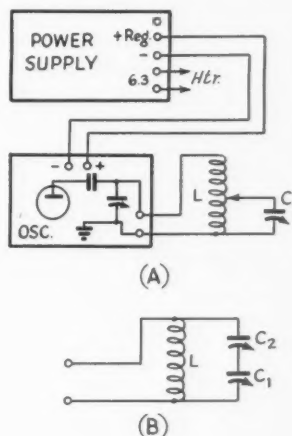
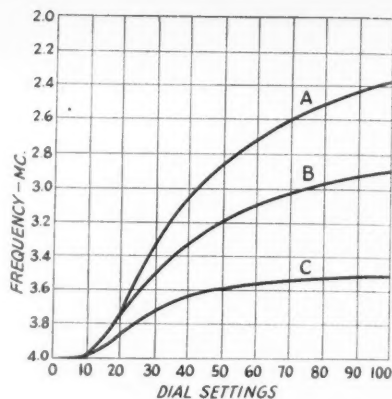

Fig. 5
Fig. 7
**Apparatus:** The equipment required for this experiment includes the plate power supply, oscillator, coils and condensers from the circuit board, and a calibrated receiver. The oscillator is operated self-controlled, using the grid coil instead of the crystal. The regular plate coil is taken out of its socket and one of the tapped coils from the circuit board substituted, as shown at *L* in Fig. 5. The oscillator tank condenser should be connected across 25 turns of the coil.
**Procedure:** Connect one of the variable condensers on the circuit board across the 25 turns in use at  $L$ , as shown in Fig. 5-A, where the condenser is designated as  $C_1$ . Set  $C_1$  to minimum capacity, adjust the receiver to 4 megacycles, and adjust the tank condenser in the oscillator unit until the signal is heard. It will be advisable to keep the receiver gain low because the signal probably will be quite strong. If the receiver is a superhet, care must be used in setting the oscillator frequency actually to 4 megacycles rather than to an image frequency or other spurious response point. The proper frequency will be the strongest signal heard as the oscillator tank condenser is turned. (As another check, the oscillator frequency may be measured with an absorption wave-meter, if one is available.)
For the second part of the experiment, connect the two 250- $\mu\text{fd.}$  condensers on the circuit board in series across the 25-turn coil, as indicated at B in Fig. 5. Set the second condenser,  $C_2$ , at full capacity, adjust the oscillator tank condenser to bring the frequency to 4 megacycles, and take frequency readings for various settings of  $C_1$  in the same way as above. Then set  $C_2$  to half scale, reset the tank condenser to make the oscillator frequency 4 megacycles and repeat. Follow the same procedure for a third time with the series condenser,  $C_2$ , set at  $\frac{1}{4}$  scale. (The last two settings of  $C_2$  will not be  $\frac{1}{2}$  and  $\frac{1}{4}$  maximum capacity, if the plates are not semicircular, but this will not matter for the purposes of the experiment.) Plot the data in the same way as in the first part of the experiment. Fig. 7 shows the results of such measurements, using condensers having "straight-line-wavelength" plates.